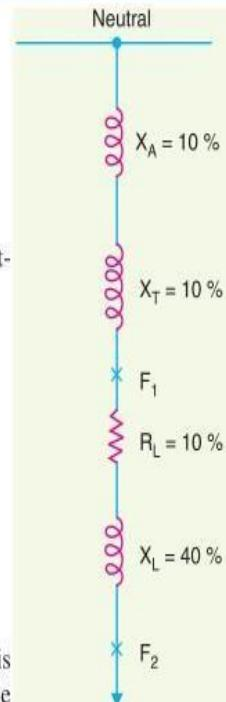

Fig. 17.10
- (i) The reactance diagram of the network on the selected base kVA is shown in Fig. 17.10. For a fault at the end of a transmission line (point F₂),